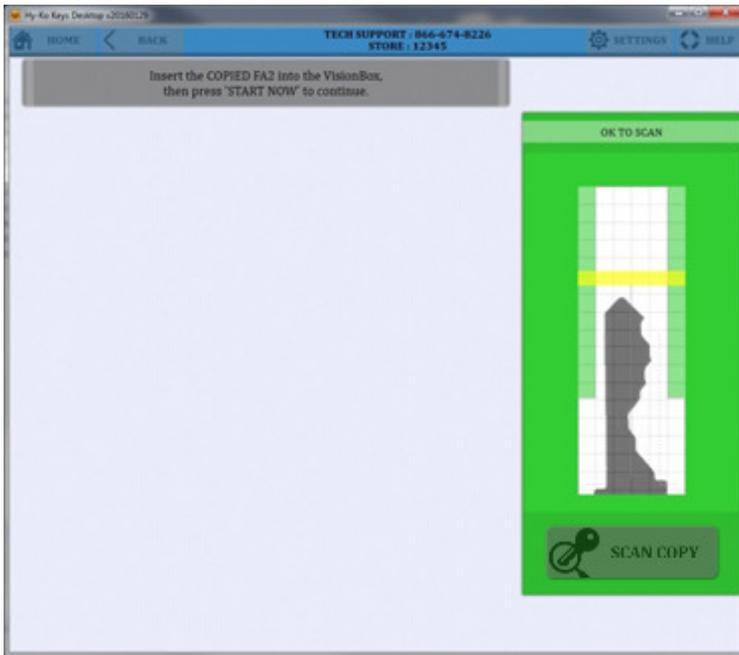

fig. 40
- Click **'SCAN COPY'**. The Vision Box will begin the scanning process of the key (see fig. 40). Do not touch the key at this time.